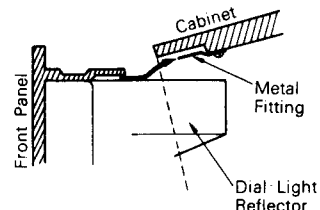

Fig. 3
- When the cabinet is installed, insert the metal fitting of cabinet (as shown in fig. 3) into the space between the front panel and light reflector.